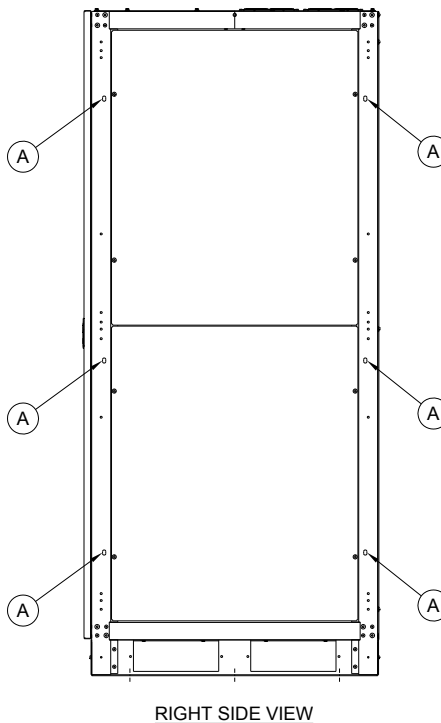

Figure 3 - Cabinet to Cabinet Mounting Hole Locations
3. Bolt the cabinets together at (6) locations with the supplied 5/16 hardware through the slots noted as "A" in **Figure 3**.